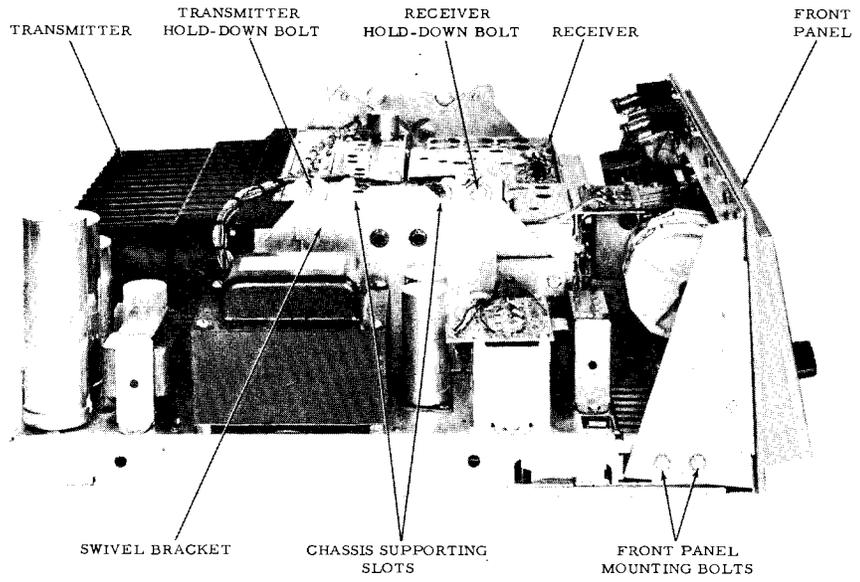

Figure 2.
(2) Tilt receiver up and back until the hex-head bolts rest in the slots of the swivel brackets.
(3) Tighten hex-head bolts, if desired, to secure chassis in place during servicing.
c. Tilting Transmitter for Servicing (Figure 2)
d. Dropping Front Panel for Servicing (Figure 2)
(1) Remove the bottom cover as described in paragraph e. following.
(2) Four bolts secure the front panel to the chassis, two on each side. They are located at